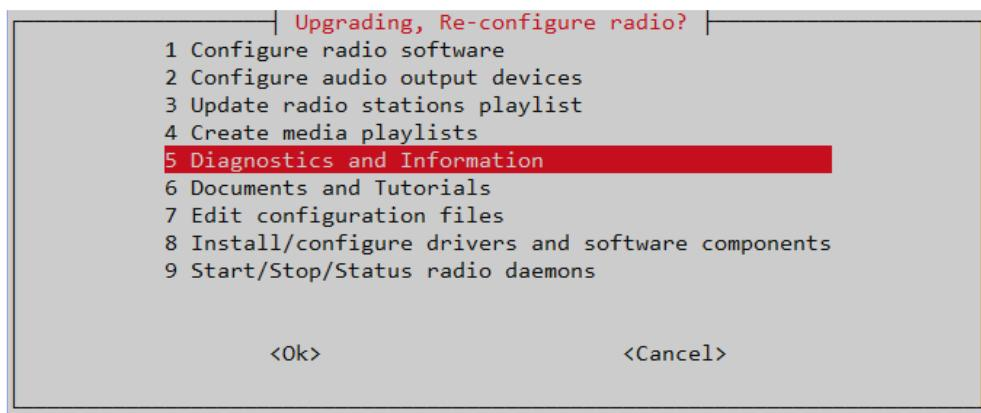

Figure 232 Diagnostics and Information menu
- Select option **1 Run the radio in diagnostic mode (nodaemon)** shown in *Figure 232 Diagnostics and Information menu* on page 210.
- Select option **2 Test rotary encoders** from the diagnostics menu. shown in *Figure 232 Diagnostics and Information menu* on page 210.
- Select option **2 Test rotary encoders** from the diagnostics menu shown in *Figure 232 Diagnostics and Information menu* on page 210.
- Select option **5 Test configured display** from the diagnostics menu shown in *Figure 232 Diagnostics and Information menu* on page 210. This displays the following output